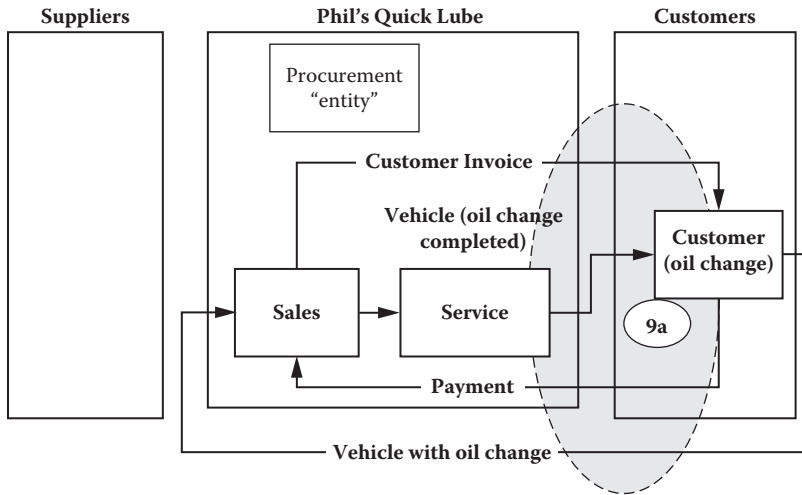
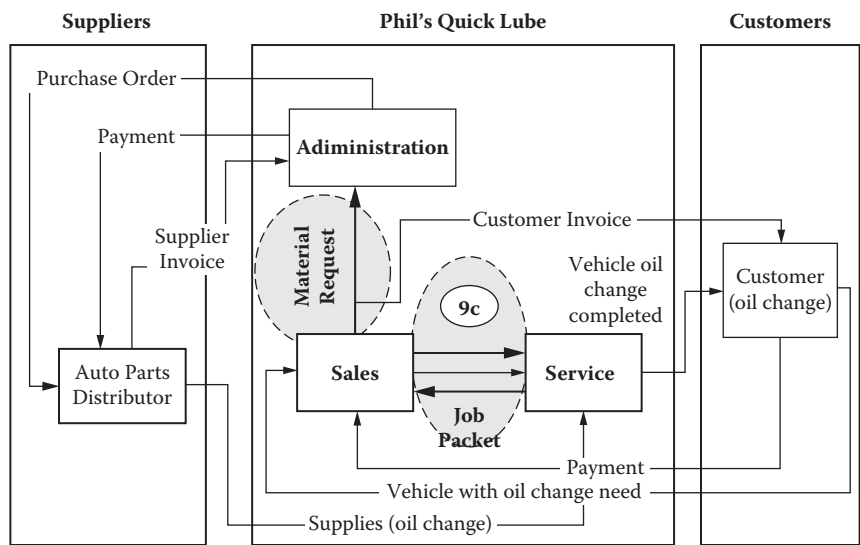

Figure A.8 Phil's Quick Lube with customer "touch points" highlighted.
Figure A.10 Phil's Quick Lube with internal supplier-customer relationships highlighted.
9. Draw and label the inputs and outputs, to reflect the **connections among the parts as a whole** (Figure A.8 to Figure A.10).